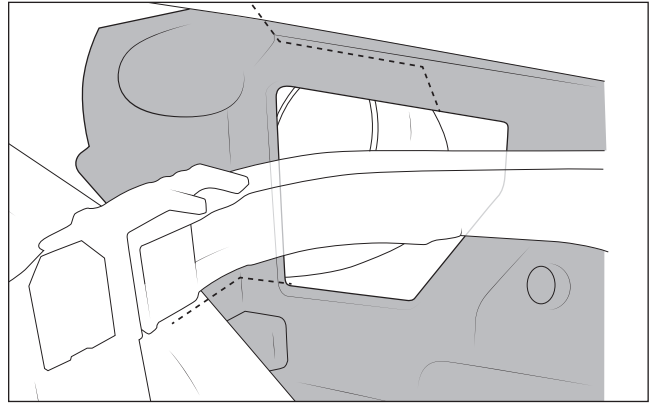

Figure 17
7. Trim plastic for clearance of air inlet as shown (Fig. 17).